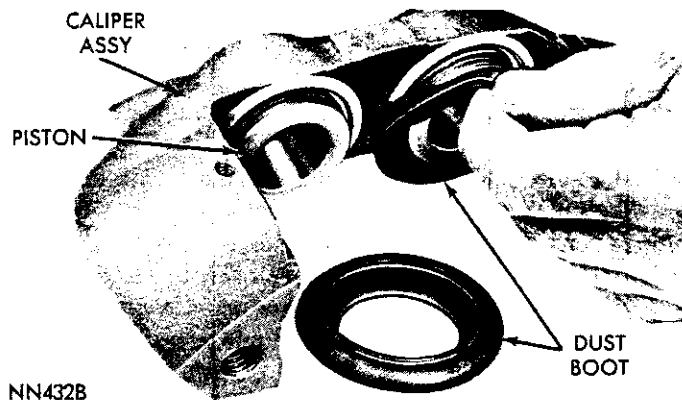

Fig. 10—Removing Dust Boot from Piston and Caliper
- (1) Remove shoe retainer spring assemblies. Remove jumper tube (armored) at caliper.
- (2) Mount caliper assembly in a vise equipped with protector jaws. (Use caliper mounting lugs.) Remove transfer tube.
- (3) Remove shoe and lining assemblies.
- (4) Remove bridge bolts that hold two halves of caliper together. (**Make sure at reassembly that these two bolts are used and tightened to correct torque.**) Separate assemblies.
(5) Peel dust boot out and away from caliper housing retainer and out of piston groove (Fig. 10). Remove remaining dust boots in same manner.